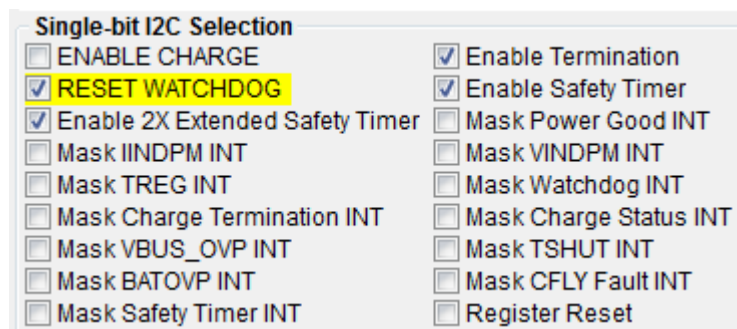

Figure 5. bq25910 *WD_RST* bit
- The *WD_RST* bit needs to be set first to force the charger out of default mode. This can be done by setting the *RESET WATCHDOG* checkbox on bqStudio, see Figure 5 for the location of the *WD_RST* bit in the *Single-bit I2C Selection* section of bqStudio.